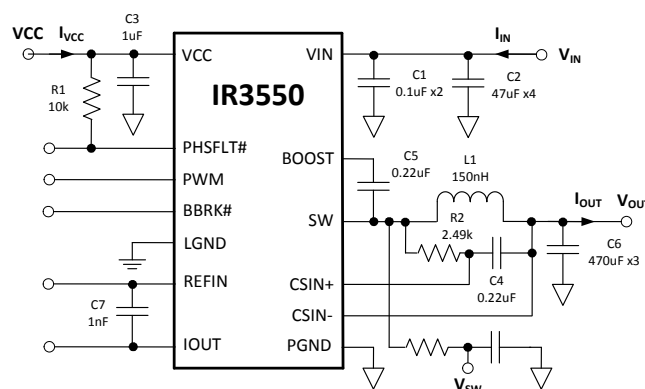

Figure 32: IR3550 Power Loss Measurement
Circuit of Figure 32,  $V_{IN}=12V$ ,  $V_{OUT}=1.2V$ ,  $f_{SW} = 400kHz$ ,  $L=150nH$  ( $0.29m\Omega$ ),  $V_{CC}=7V$ ,  $T_{AMBIENT} = 25^{\circ}C$ , no heat sink, no air flow, 8-layer PCB board of 3.7" (L) x 2.6" (W), no PWM controller loss, no inductor loss, unless specified otherwise.
Circuit of Figure 32,  $V_{IN}=12V$ ,  $V_{OUT}=1.2V$ ,  $f_{SW} = 400kHz$ ,  $L=150nH$  (0.29mΩ),  $V_{CC}=7V$ ,  $T_{AMBIENT} = 25^{\circ}C$ , no heat sink, no air flow, 8-layer PCB board of 3.7" (L) x 2.6" (W), no PWM controller loss, no inductor loss, unless specified otherwise.
The single-phase IR3550 efficiency and power loss measurement circuit is shown in Figure 32.